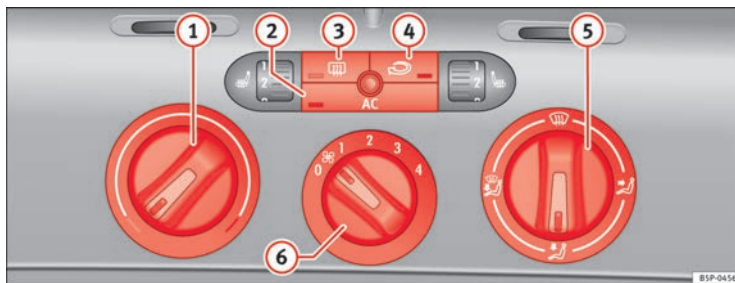

Fig. 129 On the dash panel: Climatic controls
- Use the knobs ⇒ fig. 129 ① and ⑤ and control ⑥ to set the temperature, air distribution and blower speed.
- To switch a function on or off, press the appropriate button ②, ③ or ④. When the function is activated, the display window in the lower corner of the button is lit.
- ① Temperature selector ⇒ page 160
- ② **AC** button – Heating, ventilation and air-conditioning system on/off ⇒ page 160
- ③ button – Heated rear window The heating will be switched off automatically approximately 20 minutes after switching on. It can also be switched off beforehand by pushing the button.
- ④ Button – Air recirculation mode ⇒ page 161
- ⑤ Air distribution control ⇒ page 160
- ⑥ Blower switch. There are four speed settings for the air flow. The air flow should always be set at the lowest speed when driving slowly.
- Switch on the air conditioner using the button ⇒ fig. 129 .